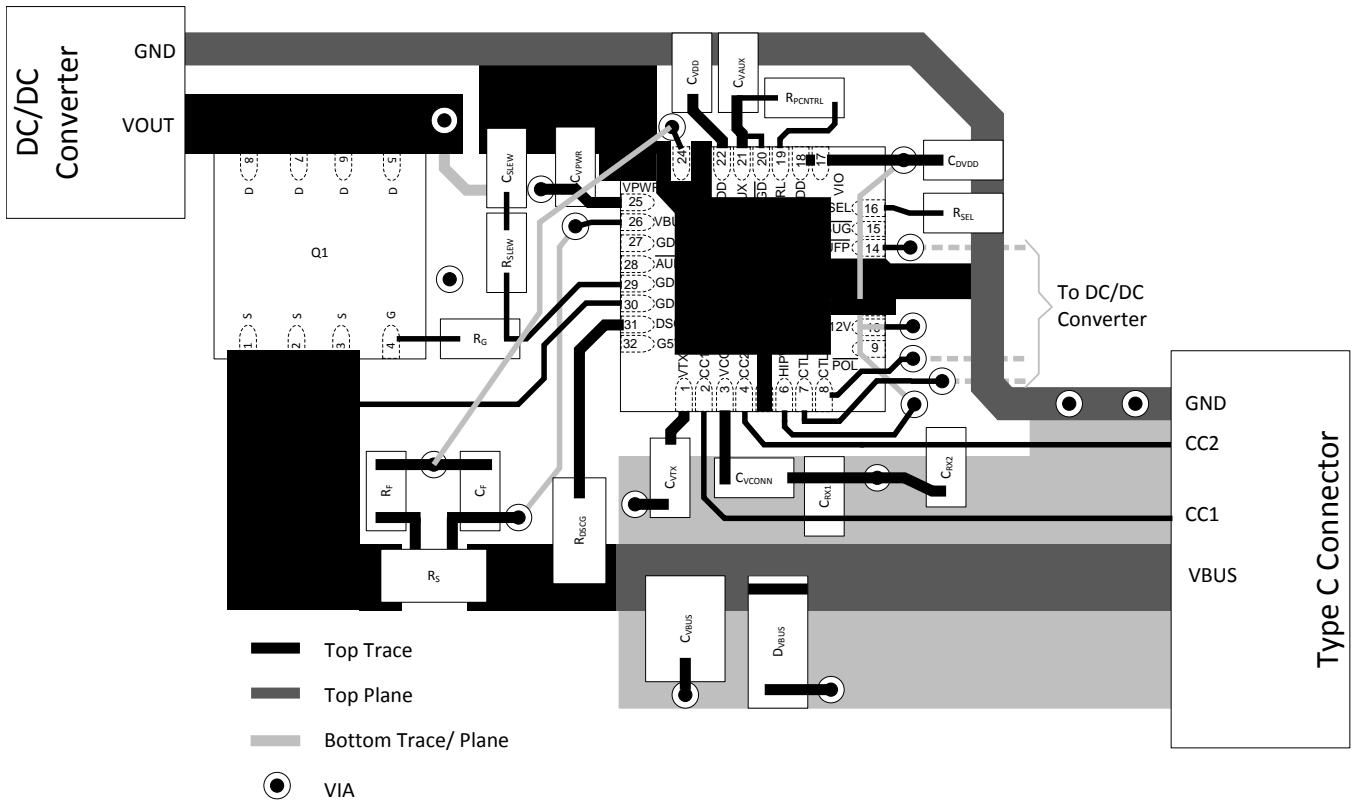

Figure 74. Layout Example
- C_{VPWR} : Place close to pin 25 (VPWR) and connect with low inductance traces and vias according to Figure 74.
- C_{VDD} : Place close to pin 22 (VDD) and connect with low inductance traces and vias according to Figure 74.
- C_{VCONN} : Place close to pin 3 (VDD) and connect with low inductance traces and vias according to Figure 74.
- C_{DVDD} : Place close to pin 18 (DVDD) and connect with low inductance traces and vias according to Figure 74.
- C_{VIO} : Place close to pin 17 (VDD) and connect with low inductance traces and vias according to Figure 74.
- C_{VAUX} : Place close to pin 21 (VAUX) and connect with low inductance traces and vias according to Figure 74.
- C_{VTX} : Place close to pin 1 (VTX) and connect with low inductance traces and vias according to Figure 74.
- R_S : Place R_S as shown in Figure 74 to facilitate uninterrupted power flow to the Type C connector. Orient R_S for optimal Kelvin sense connection/routing back to the TPS25741 or TPS25741A. In high current applications
- R_G : Place R_G near Q_1 as shown in Figure 74. Minimize stray leakage paths as the GNDG sourcing current could be affected.
- R_{SLEW}/C_{SLEW} : Place R_{SLEW} and C_{SLEW} near RG as shown in Figure 74.
- R_F/C_F : When required, place R_F and C_F as shown in Figure 74 to facilitate the Kelvin sense connection back to the device.
The basic component placement and layout is provided in Figure 74. This layout represents the circuit shown in Figure 41. The layout for other power configurations will vary slightly from that shown below.